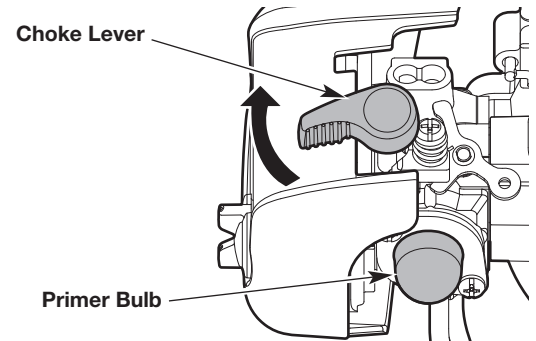

Fig. 8
1. Slowly press and release the primer bulb **10 times** (Fig. 8).
2. Flip the choke lever clockwise until it clicks (Fig. 8).